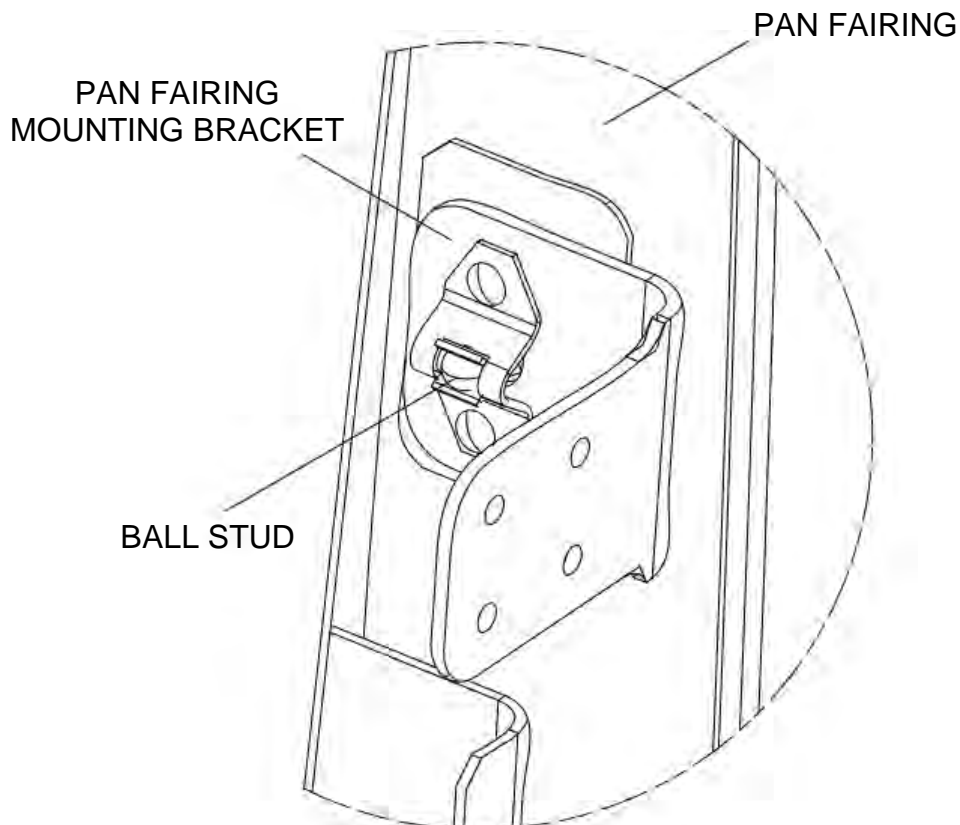

FIGURE 1
Note 1: Item numbers shown thus (*-**), refer to items from the Component Maintenance Manual 25-20-53. As an example, (1-30) refers to figure 1, item 30.
1. Disengage the pan fairing assembly (1-45E, 1-45F, 1-45G, 1-45H, 1-45J, 1-45K, 1-50E, 1-50F, 1-50G, 1-50H, 1-50J, 1-50K) from fairing mounting brackets (3-15, 3-35, 3-55, 3-60, 3-80) and (6-20, 6-100, 6-115, 6-130) on the basic seat assembly (1-165, 1-170) and pan structure assembly (4-25, 4-30) as shown in figure 1.